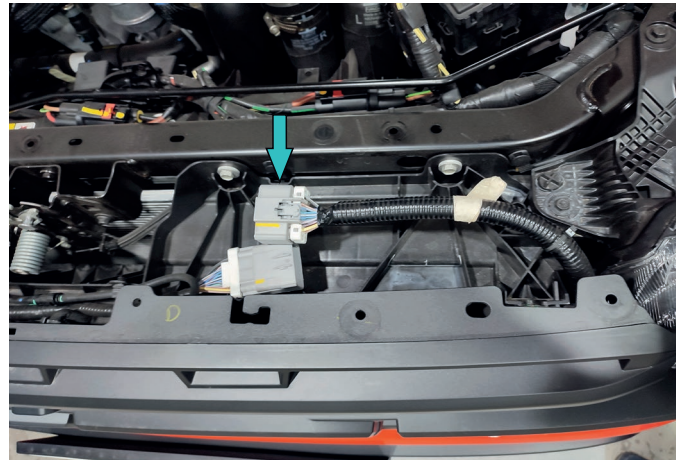

Fig.10
10. Disconnect the factory wiring plug (fig.10).